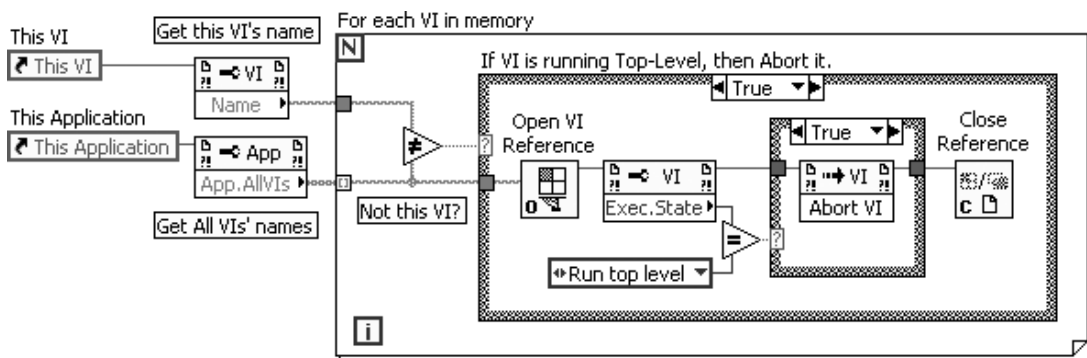

Figure 15.66
1. Open a new VI and build the block diagram shown in Figure 15.66.